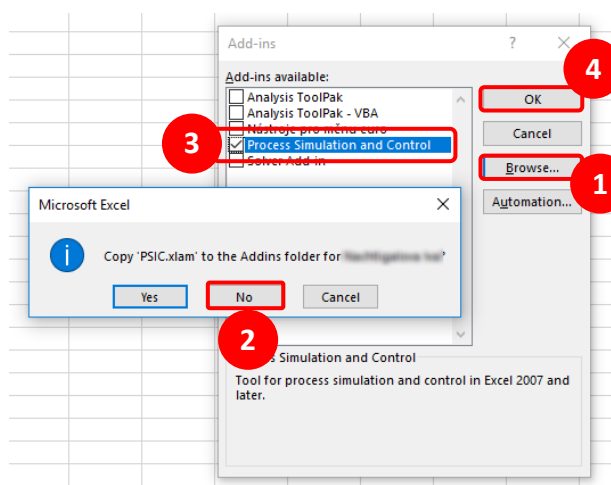

Figure 1: Add-Ins dialog box
3. In the **Manage** box, select the **Excel Add-ins** and then click the **Go** button. The Add-Ins available box appears (see Figure 1):
Note: The add-in can be inactivated at any time by clearing the checkbox in the Add-Ins dialog box (see ③ in Figure 1). Inactivating the add-in does not remove its file from your computer, it only inactivate the add-in features and commands (including changes in the user interface).
3. In the Add-Ins available box (see Figure 1), clear the checkbox of the **Process Simulation and Control** add-in, confirm the query to remove the add-in and then click the **OK** button.